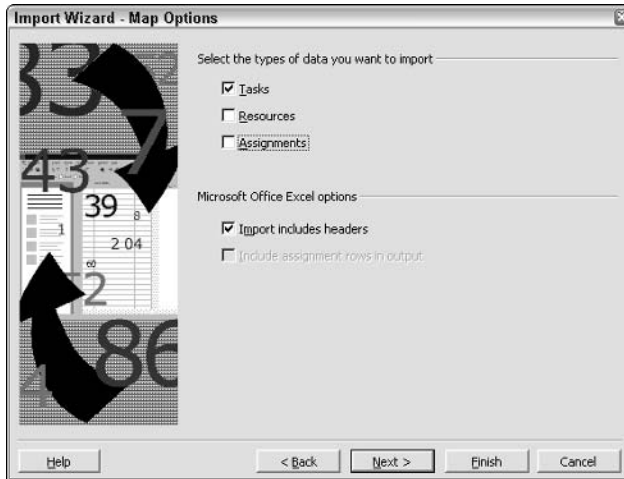

Figure 26-24: Select the types of data that you want to import.
- Click Next. In the Map Options dialog box, select the types of data that you want to import, as shown in Figure 26-24.